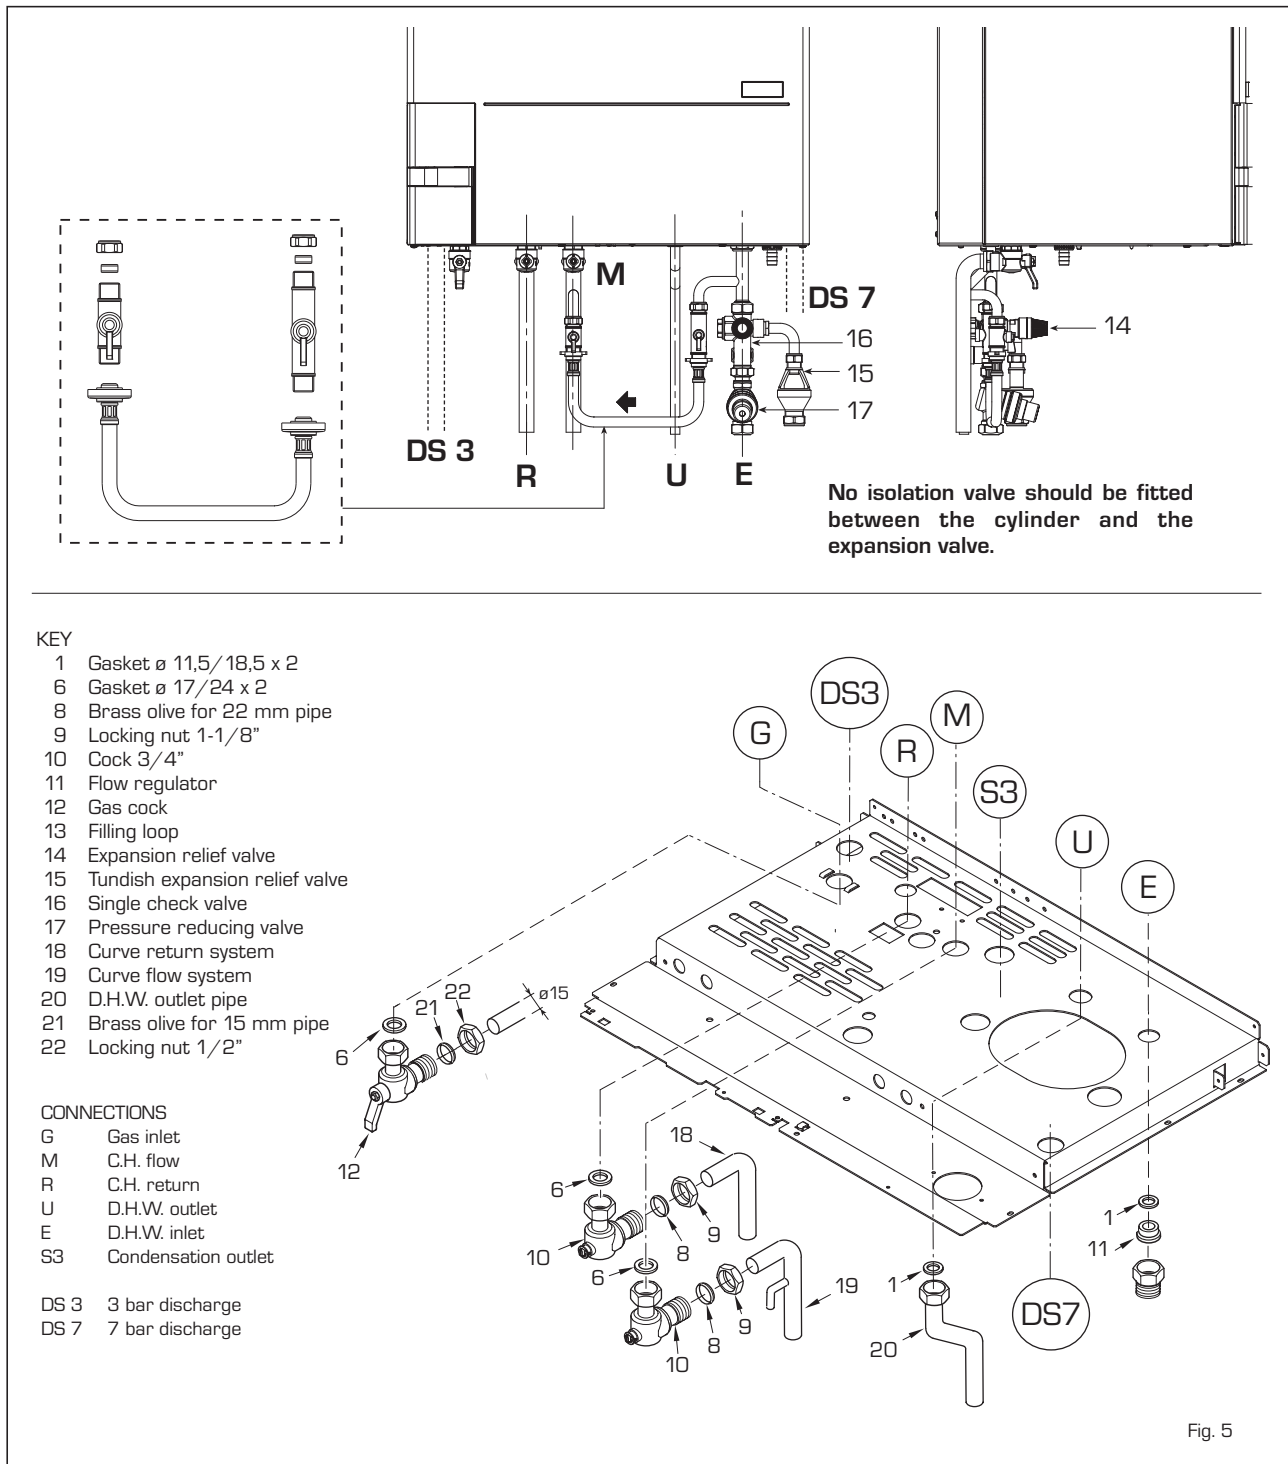

Fig. 5
2.3 HOW TO FIT C.H. AND D.H.W. FITTINGS AND GAS COCK (fig. 5)
See fig. 5 and fig. 6 for installation details. It is important that no isolating valve is fitted between the expansion relief valve and the inlet to the D.H.W. tank. Any additional D.H.W. drain down tap fitted should be positioned as low as possible to ensure that at least 80% of the D.H.W. tank's capacity can be drained.
- c) The appliance is equipped with an internal by-pass that operates with system heads (H) greater than 3 m. The maximum flow through the by-pass is about 300 l/h. If thermostatic radiator valves are to be installed, at least one radiator should be without a thermostatic valve (usually the bathroom radiator).
d) A sealed system must only be filled by a competent person using the filling loop as shown in fig 5.